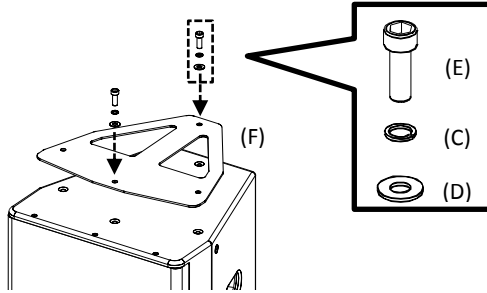

Fig.3-2-1-B
NOTE: In addition, Using the supplied two M10 socket head bolts(E), align the mounting holes in the load plate(F) with the mounting point on the top of the enclosure. Tighten the bolts over 15N·m torque. (Fig.3-2-1-B)
- (2) Using the supplied two bolts(B), align the mounting holes in the inner yoke of the Vertical Flying Cradle(A) with the mounting points on the top of the enclosure. The installation method depends on the model you use. Please follow the steps below for further details when installing such a model. (Fig.3-2-1-C)